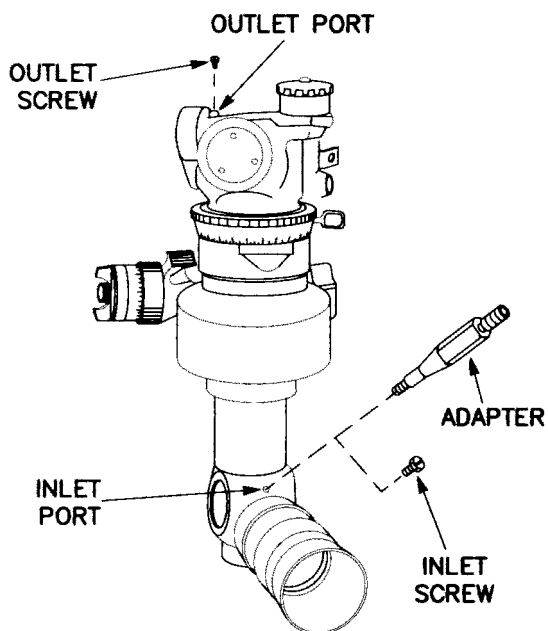

Figure 3-70 M12A7Q Panoramic Telescope
a. Panoramic Telescope, M12A7Q (fig. 3-70).
- (1) Perform purging procedure 2-5.d.
- (2) Purge instrument at 5 psig for 5 minutes.
b. Panoramic Telescope, M12A7S (fig. 3-70).